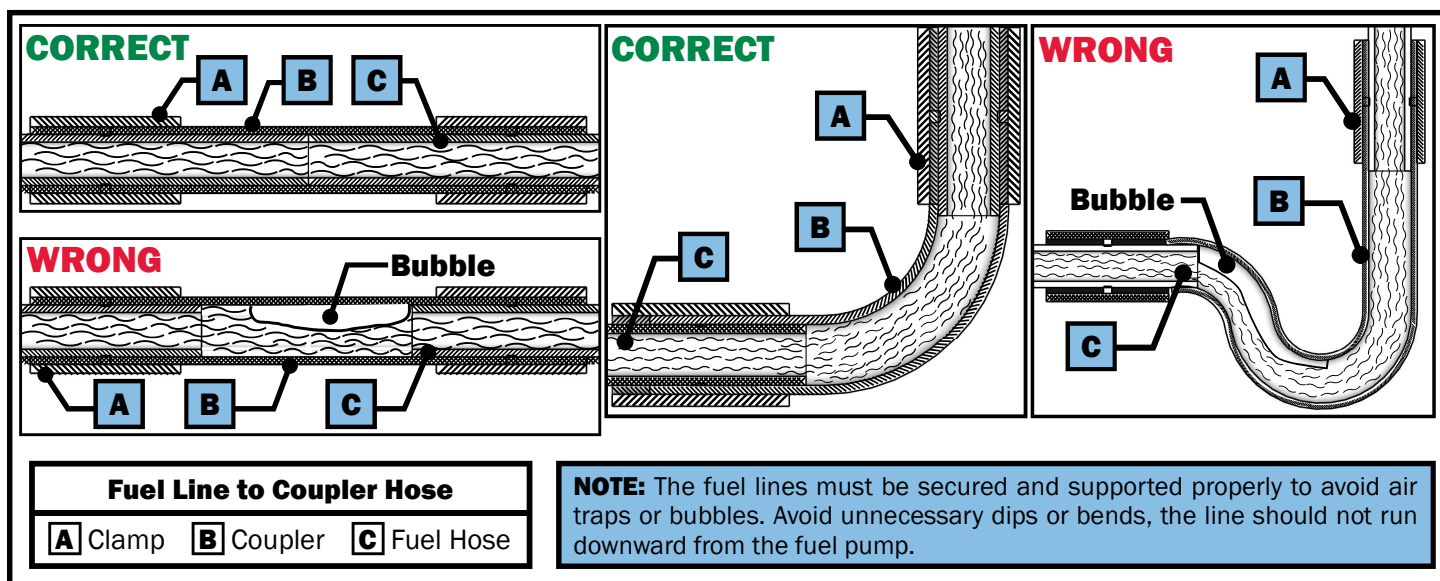

Figure 76
- The fuel line must be secured to the connections and couplers by hose clamps. See Figure 76.